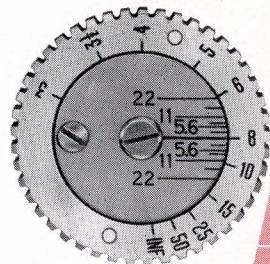

Fig. 12
The *Depth of Focus Scale* is arranged within the focusing control (11) as shown in Figures 12 to 14. It has a number of lines symmetrically disposed with respect to a center line; each pair of these lines being marked with an *f* number or diaphragm stop. Its use can be explained as follows:
1. Focus at the nearest object which should still appear on the negative with acceptable sharpness (Fig. 12). This distance may be, for example, 8 feet.